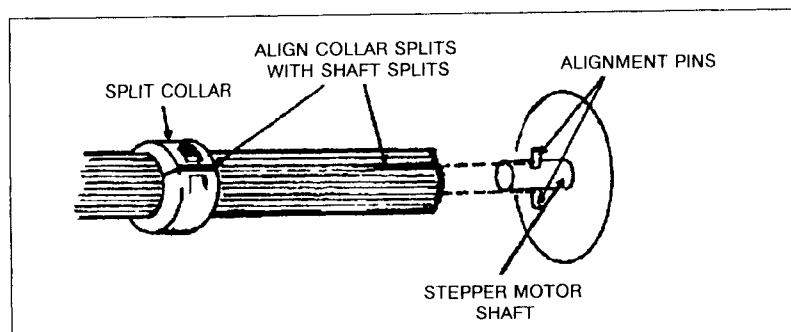

Figure 6-21. Mounting the Upper Drive Shaft to the Stepper Motor
The stepper motor provides drive to the paper tractors. It is located on the top right of the printer toward the rear (see Figure 6-21). Removal procedure is as follows:
- e. From the top of the printer, loosen the 3 mm Allen screw on the split collar located on the tractor drive shaft adjacent to the motor (see Figure 6-21).
To reassemble, reverse the above procedure. Be sure that the slot in the motor is aligned with the slot in the splined shaft and that the slot in the split collar is aligned with the slot in the upper drive shaft (see Figure 6-21).